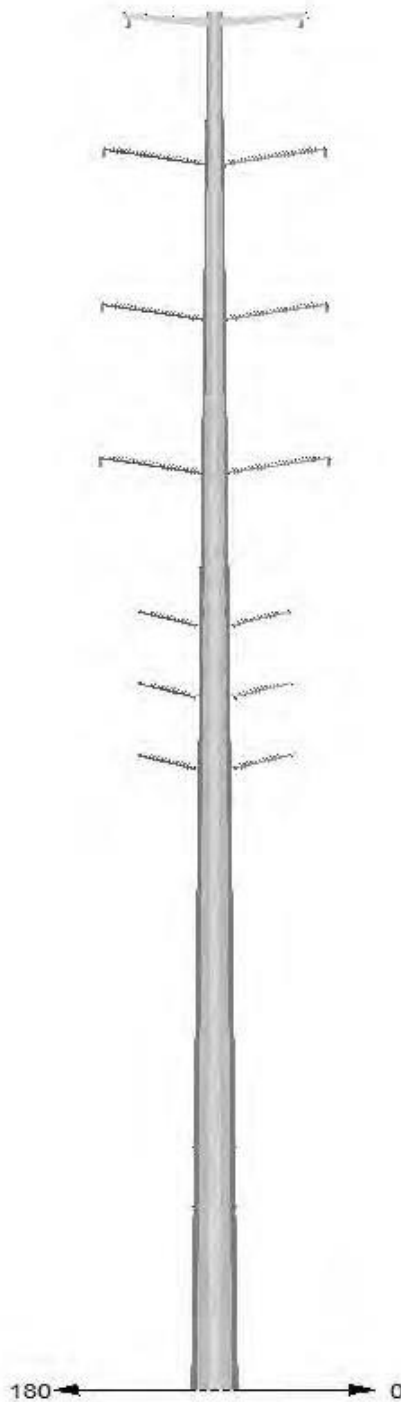

FIGURE G-15
- Figure G-15: Double-Circuit 230 kV Tubular Steel Structure (Pole) with 69 kV Underbuild, Standard Configuration with Braced Post Insulators